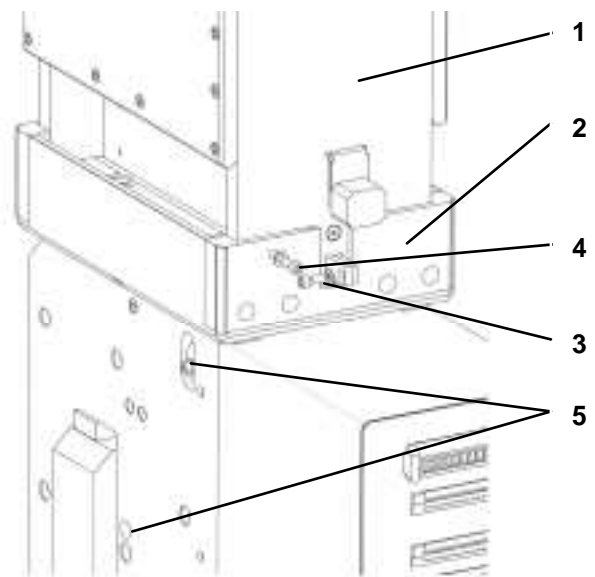

Fig. 49 Arc chute and arc runners fixing
- [Fig. 49]. Loosen the screws (3) and (4), using SW5 hexagon wrench and take off the arc chute (1) from the adapter (2).
- [Fig. 49]. Put in arc chute (1) into adapter (2).
- [Fig. 49]. Tighten front- and backside connections of the arc runners (3), including lock washer; use 10 Nm [88 in-lbs].
- [Fig. 49]. Tighten front- and backside of the arc chute connections (4), including flat washers; use 5 Nm [44 in-lbs].